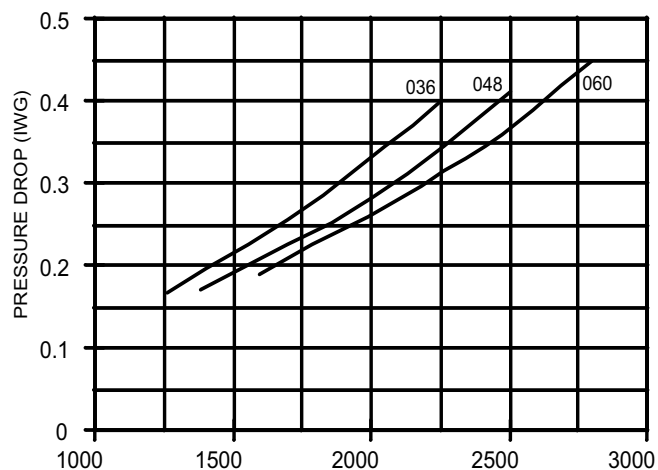

FIGURE 13 - PRESSURE DROP ACROSS COIL
- Knowing the pressure drop across a dry coil, the actual CFM through the unit can be determined from the curve in Pressure Drop vs. Supply Air CFM (Figure 13).